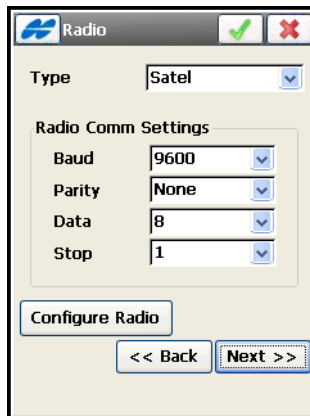

Figure 4-76. TS Radio
6. For a Robotic Survey, choose the modem to be used and its parameters, then tap **Next** (Figure 4-76 on page 4-59).